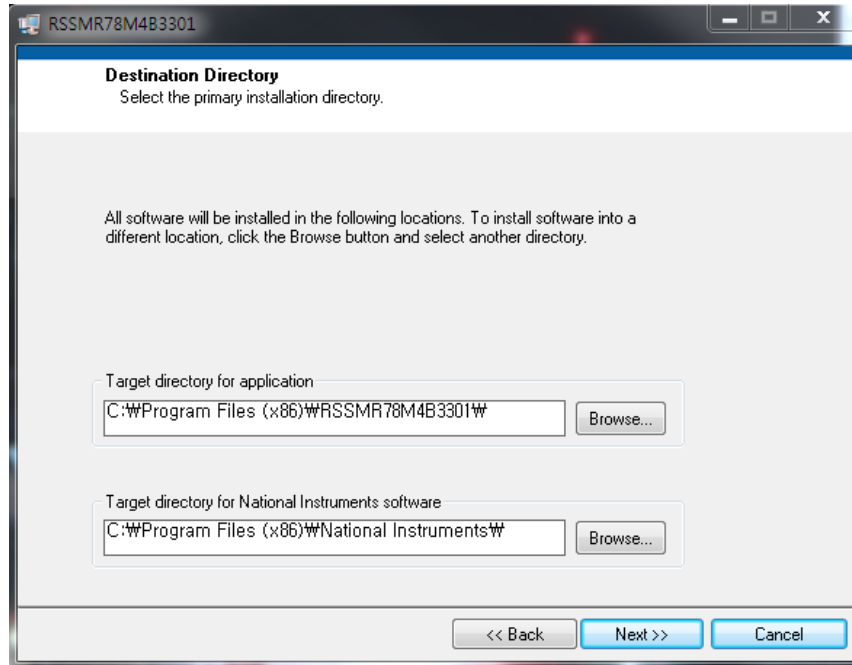

Figure 6-3: Navigate to the destination directory
- 3) Navigate to the destination directory in which you want to install the file, Figure 6-3.